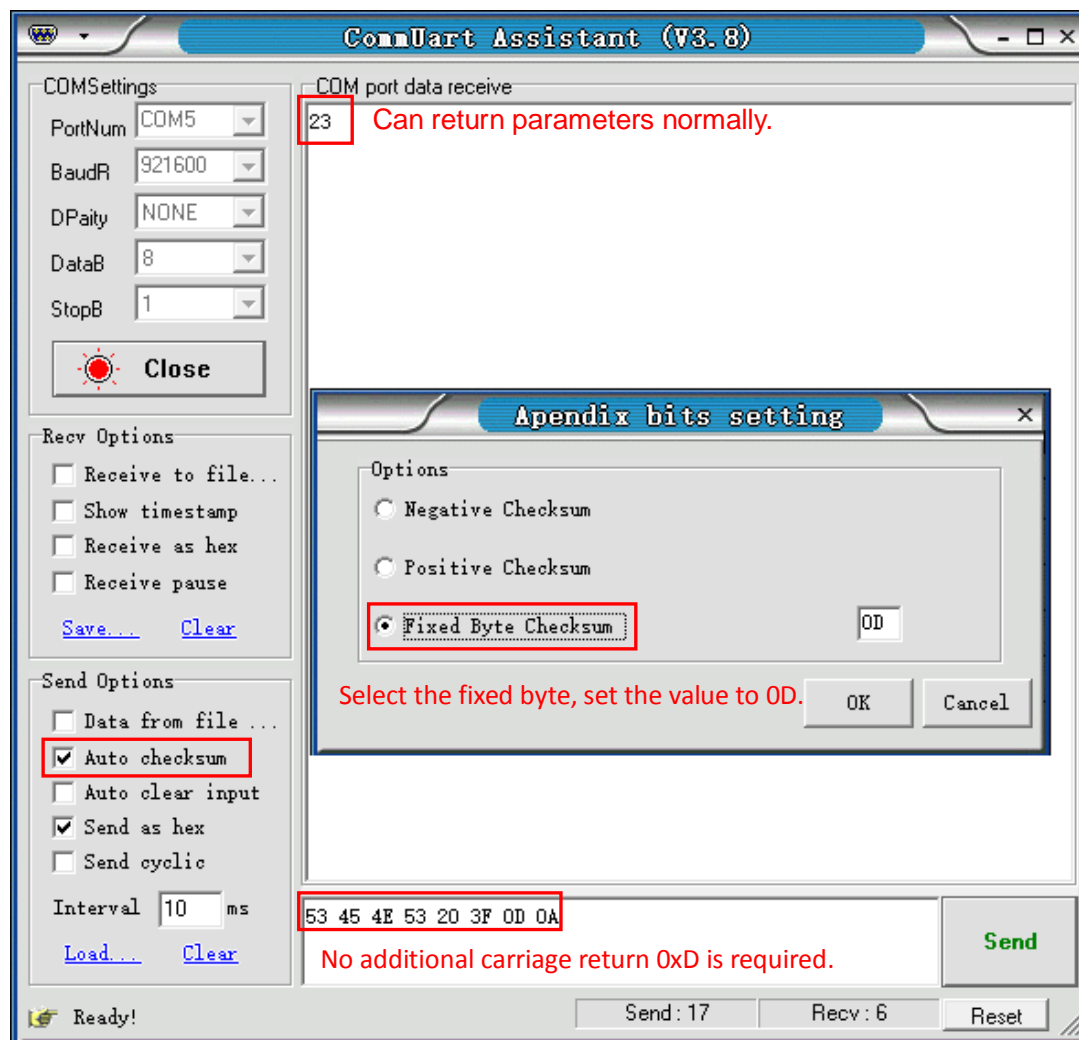

Fig.77 Setting the checksum
2) The serial assistant can be configured to automatically add carriage return 0X0D. You just need to click ☐ Auto checksum and choose ☐ Fixed Byte Checksum. Finally, set the additional digit to <0D> as Fig.77.